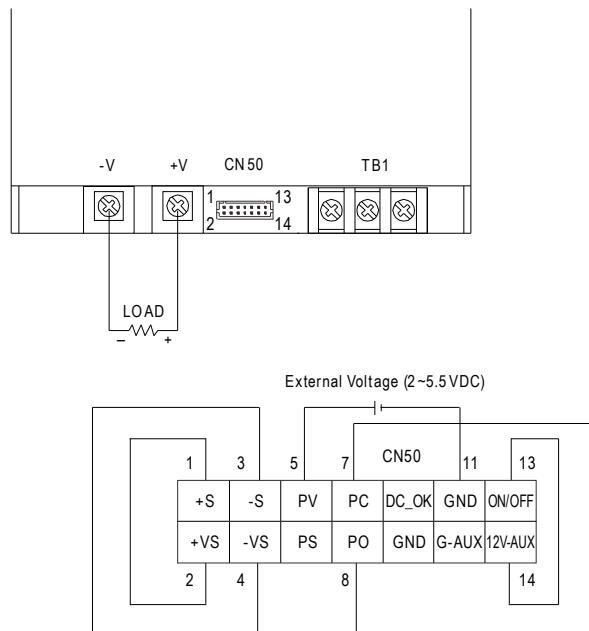

Fig 5.1
- (1) Using an external DC source (2~5.5VDC) between "PV"(pin5) and "GND"(pin10,11) that is shown in Fig5.1